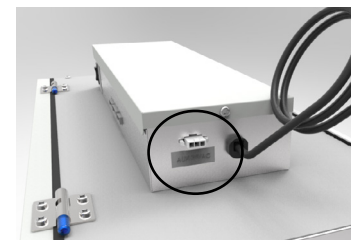

Figure 1
**If the FAA is installed such that the homeowner may turn off the FAA during the winter, we recommend installing a motorized damper between the FAA's supply air and the furnace's return air duct that closes when the FAA is not operating. To install a damper accessory to the product, locate the auxiliary connector on the side of the electrical box. See Figure 1. Using the included wire harness, connect the damper accessory to the product.**